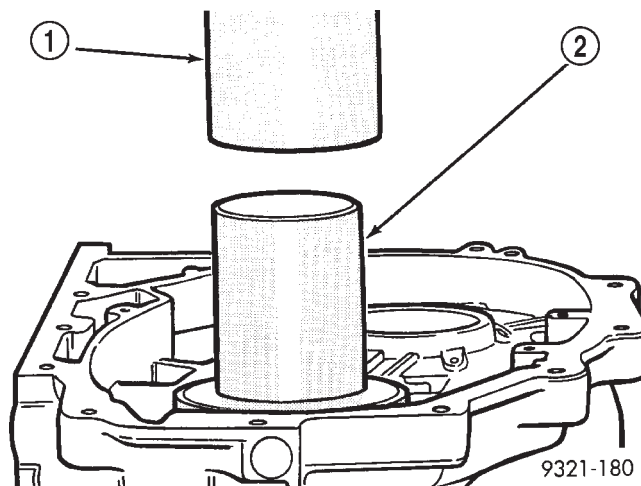

Fig. 418 Rear Transfer Shaft Cup Installation
(40) Use special tool 6560 to press cup into case (Fig. 418).